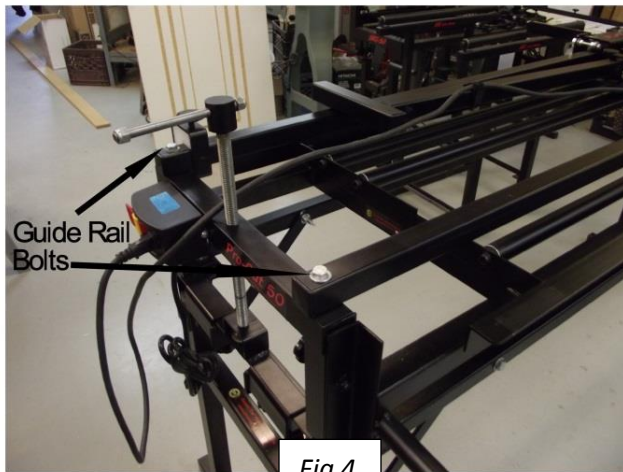

Fig 4
(Fig 4 & 5) shows the Sled Guide Rail and Sled Guide Rail Bolts. There are 1" slots in the Sled Guide Rail Sub Frame to allow independent adjustment of each Sled Guide Rail. The slots will be used to allow the exact positioning of the Sled Guide Rails (explained later).
- a) Both sled guide rails can be adjusted within the slots of the (2) guide rail sub frames. (Fig 4 &5)
- c) The saw can be adjusted for “skew” on the saw insert plate by loosening the 4 mounting bolts that hold the saw to the insert plate. If necessary, you can adjust for Skew on the saw to the insert plate and re-tighten the (4) mounting nuts and bolts. (This is one of the last procedures discussed later)